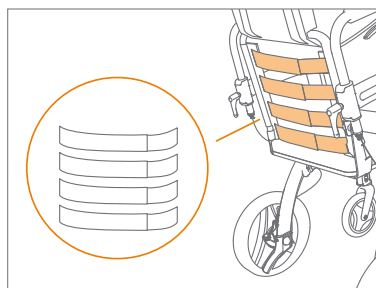

Figure 47: Loosen for more seat depth.
- Adjust the straps by pulling off the Velcro and fastening them again to the desired setting (**Figure 47**).